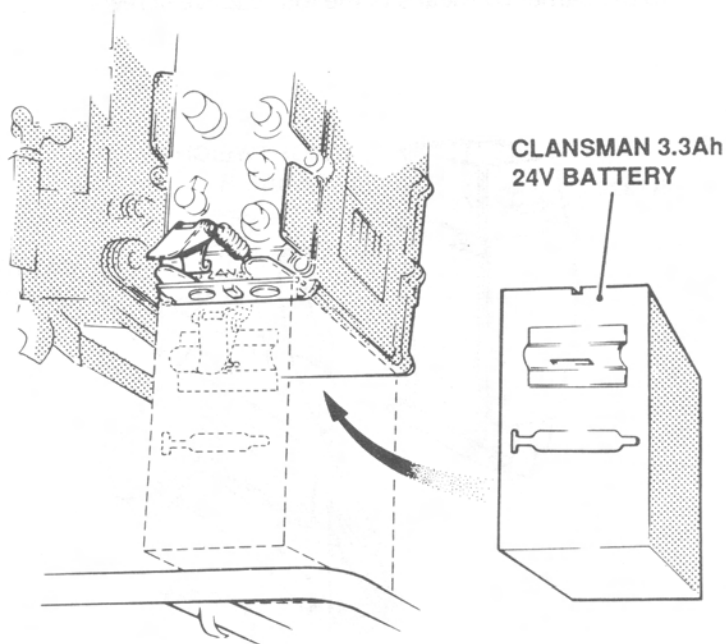

Fig.4a Fitting Battery
2.3 Connecting battery to RT 320 (Fig.4a & b). Proceed as follows: